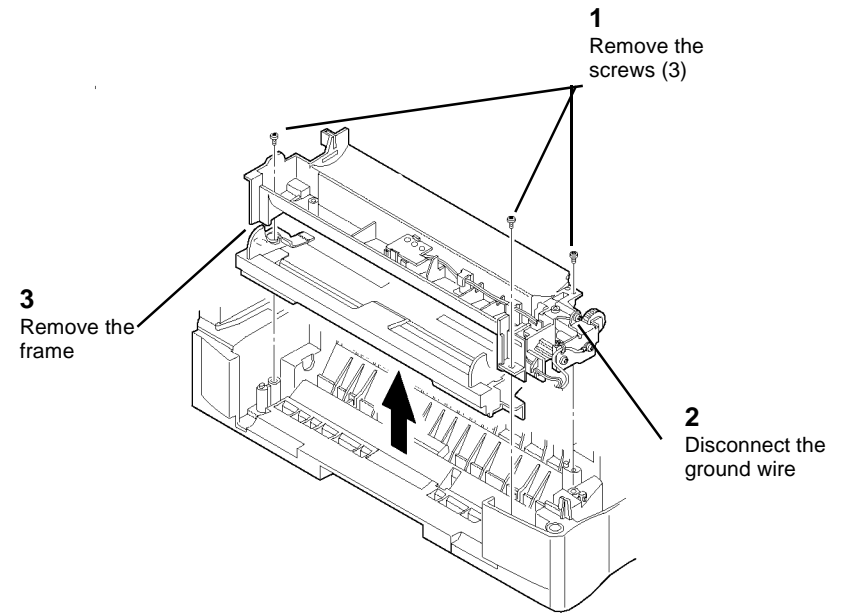

Figure 2 Removing the Bypass Frame
3. (Figure 2): Remove the Bypass Frame.